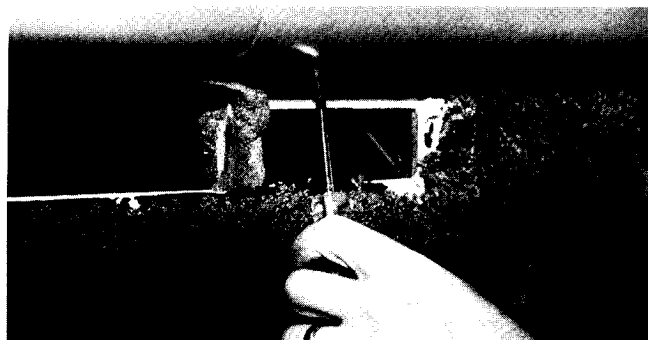

FIGURE 26
33. Remove lower left glovebox screw (Figure 26). This screw will be used to hold the right side attaching tab on the duct assembly.